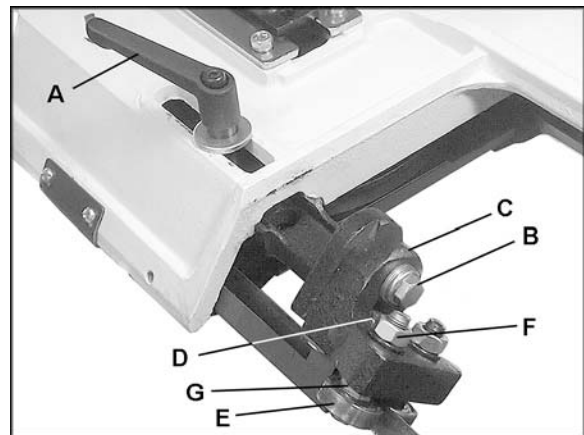
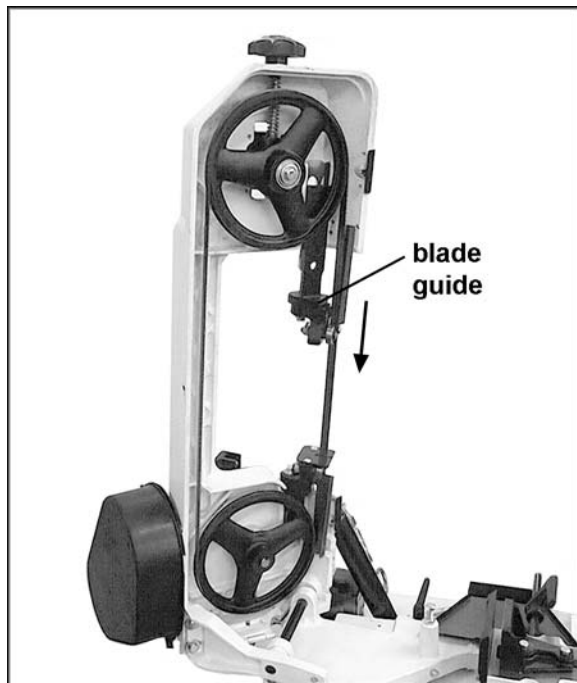

Figure 18
Figure 19
The blade guide assembly should be moved as close to the workpiece as possible without interfering with the cutting operation. This allows minimum exposure of the blade. To adjust, loosen handle (A, Figure 18) and slide the assembly into position. Always tighten handle (A, Figure 18) after adjustment.
2. Loosen slightly the hex cap screw (B, Figure 18) with a 12mm wrench.
3. Slide the guide block (C, Figure 18) down until the thrust bearing (D, Figure 18) just contacts the back edge of the blade.
4. Tighten the hex cap screw (B, Figure 18).
5. The front bearing (E, Figure 18) is eccentric, and should be adjusted so that it just contacts the blade without pinching the blade or interfering with its movement. Proceed as follows:
6. Loosen the hex nut (F, Figure 18) with a 14mm wrench.
7. Use a 12mm wrench to rotate the small hex nut just above the bearing (G, Figure 18) until the bearing is just contacting the blade.
8. Hold the bearing at that position with the wrench on the hex nut, to prevent the bearing from moving. At the same time, tighten the upper hex nut (F, Figure 18) with the other wrench.
2. Remove the knob and the back blade cover from the band saw. See Figure 19.
3. Loosen the handle on the blade guide (A, Figure 18) and lower the blade guide as far as it will go. See Figure 19.